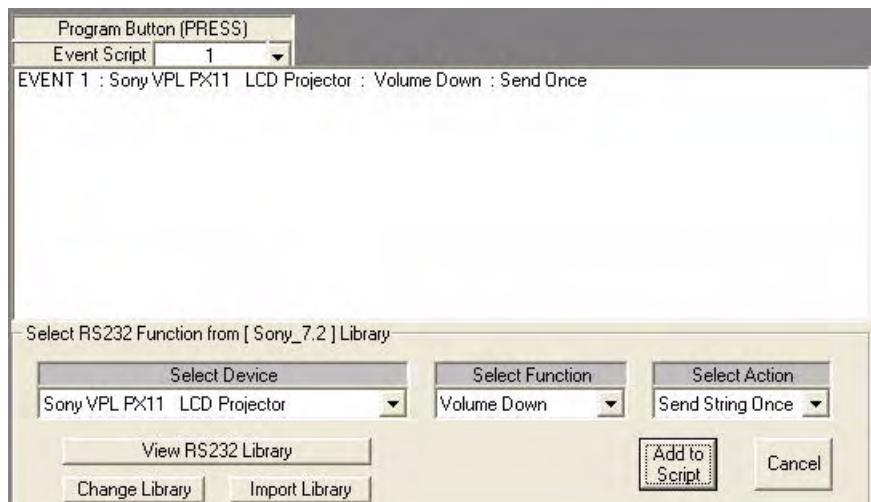

FIG. 76 Button 1 - Add Sony VPL PX11 LCD Projector "Volume Down" Command to Script
11. Choose the "Volume Down" command (in the **Select Function** drop-down menu) and click **Add To Script** to add it to the Event Script (FIG. 76):